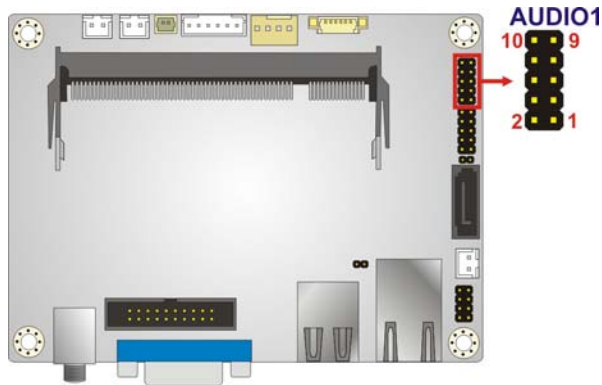

Figure 4-3: Audio Connector Location
- CN Location: See **Figure 4-3**